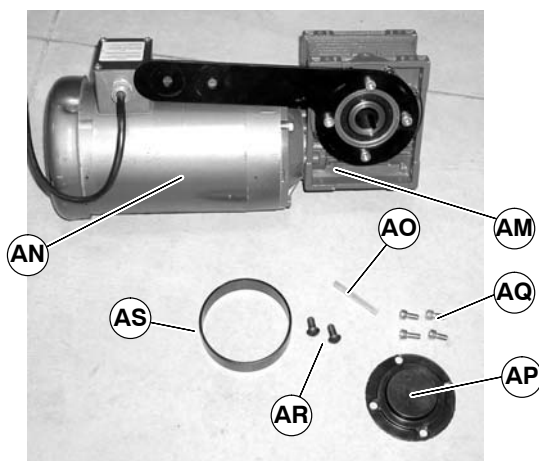

Figure 16
1. Locate components of Figure 16.